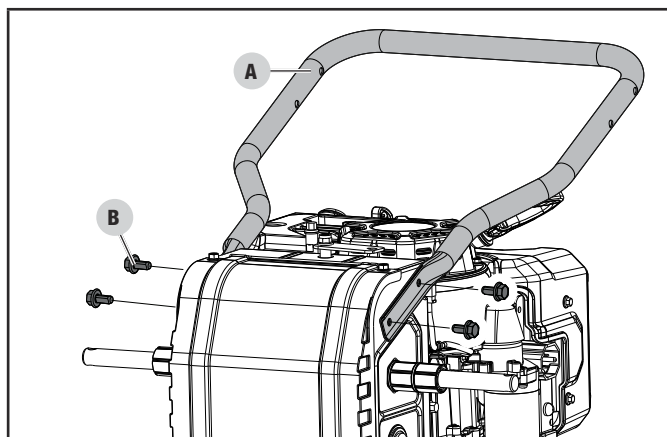

Figure 2
1. Lay the upper handle and control panel toward the bottom of the snowblower to align the cables and wire harness. Route the left side auger cable through the lower handle to keep the cable away from the left wheel. Attach the lower handle (A) onto the unit body with 4 bolts (B), using a 13 mm wrench (Fig. 2). Torque until snug. Do not overtighten.